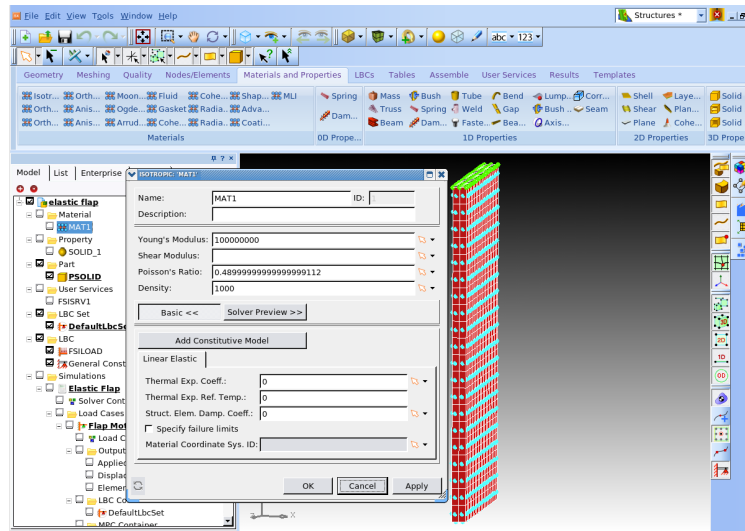

Figure 1: Model preparation under SimXpert.
1. Create Structural model using SimXpert (Figure 1).